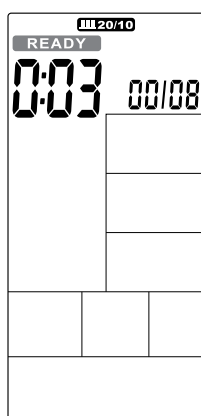

Figure 28
- ① Press INTERVAL to select INTERVAL10/20, press ENTER then **INTERVAL10/20** will light up along with buzzer beeps 1s.
- ② Cycle time counts down from 3 to 0 then console start, meanwhile buzzer beeps once per second and **READY** flashes once per second, counting displays '00/08' (Figure 28).